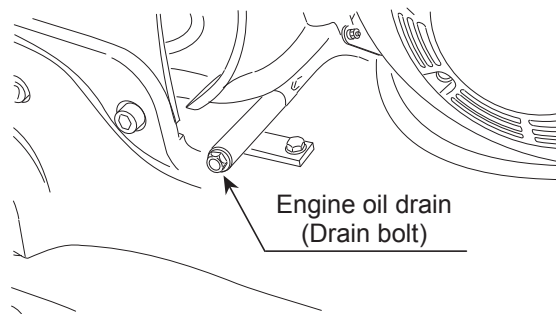

Figure 30. Draining Engine Oil
1. Remove the oil drain bolt (Figure 30) and sealing washer and allow the oil to drain into a suitable container.